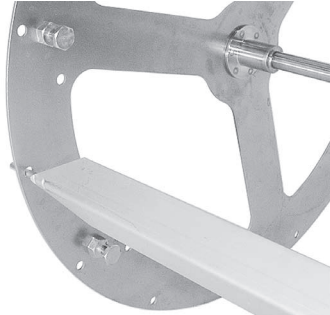

Fig. 12
1. Place pointed end of V-spit into small outside hole on non-drive side of rotor (Fig. 12).